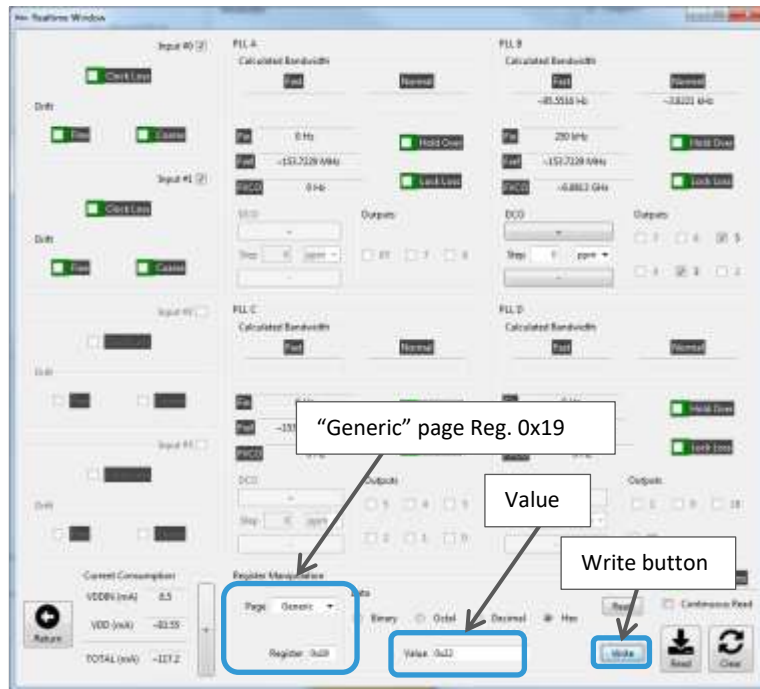

Figure 80: Writing the value to Register 0x19 in the Realtime section of SiT95148 for JESD204B
- Update the value of register **0x19** shown in Table 2 (as set in the previous example, where **PLL B: register 0x19 = 00100010_b = 0x22**, see Figure 80).